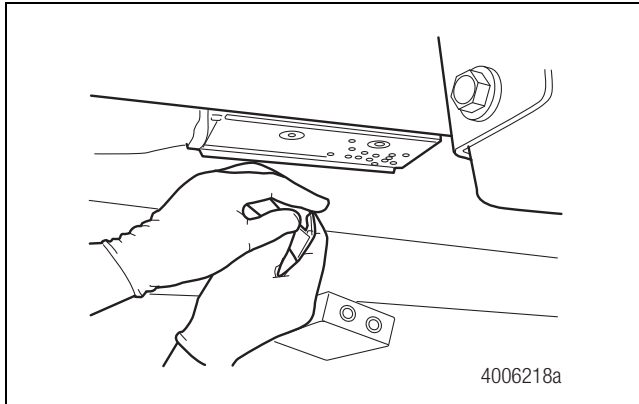

Figure 4.28
11. Remove and discard the rubber-coated seal plate. **Do not reuse this plate.** During installation, use the new seal plate included with the relay valve replacement kit. Figure 4.28.